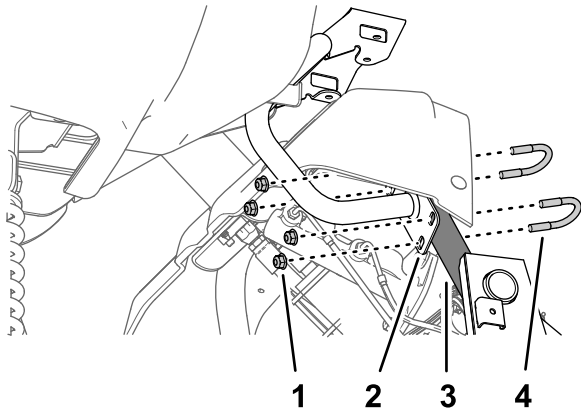

Figure 172
- Assemble the plate of the monitor mount to the support tube of the machine chassis (Figure 172) with the 2 U-bolts and 4 flange locknuts (5/16 inch).